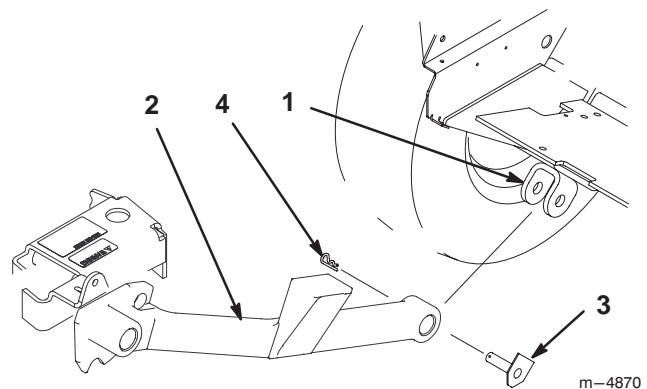

Figure 8
- Position carrier frame in front of traction unit and place push arms into clevises (Fig. 8).
- Retain push arms with pivot pin assemblies, aligned with flat against frame, and secure with hairpin cotters (Fig. 8).